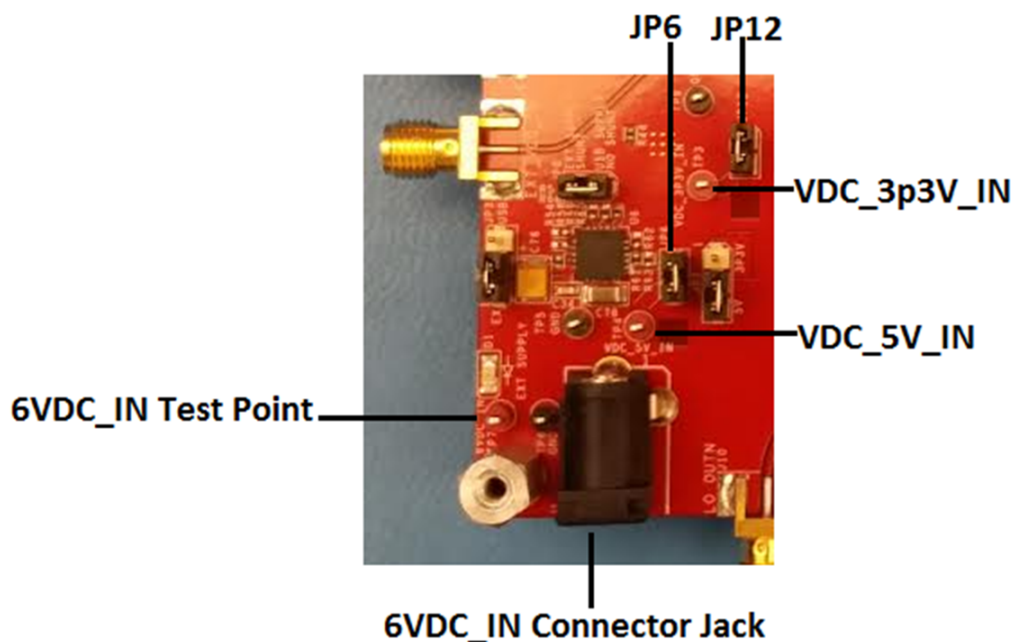

Figure 5. Voltage Supply Inputs
The default EVM jumper installation is listed in Figure 5.
3. Power up the board using a single 6-V DC supply by connecting a 6-V DC supply either at the J1 power connector jack or at the test point (TP7) as shown in Figure 5.
7. At initial power up (before the device is programmed), typical consumption from a 3.3-V DC supply is around 55 mA (± 15 mA) and typical consumption from a 5-V DC supply is around 20 mA (± 7 mA). Figure 5 shows the voltage supply inputs.